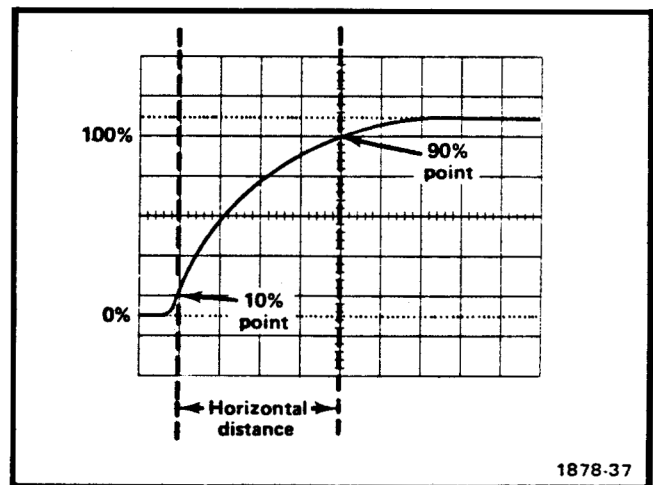

Fig. 2-6. Measuring risetime.
4. Set the time-base triggering controls to obtain a stable display. Set the SECONDS/DIV switch to the fastest sweep rate that will display less than eight divisions between the 10% and 90% points on the waveform (see Fig. 2-6).